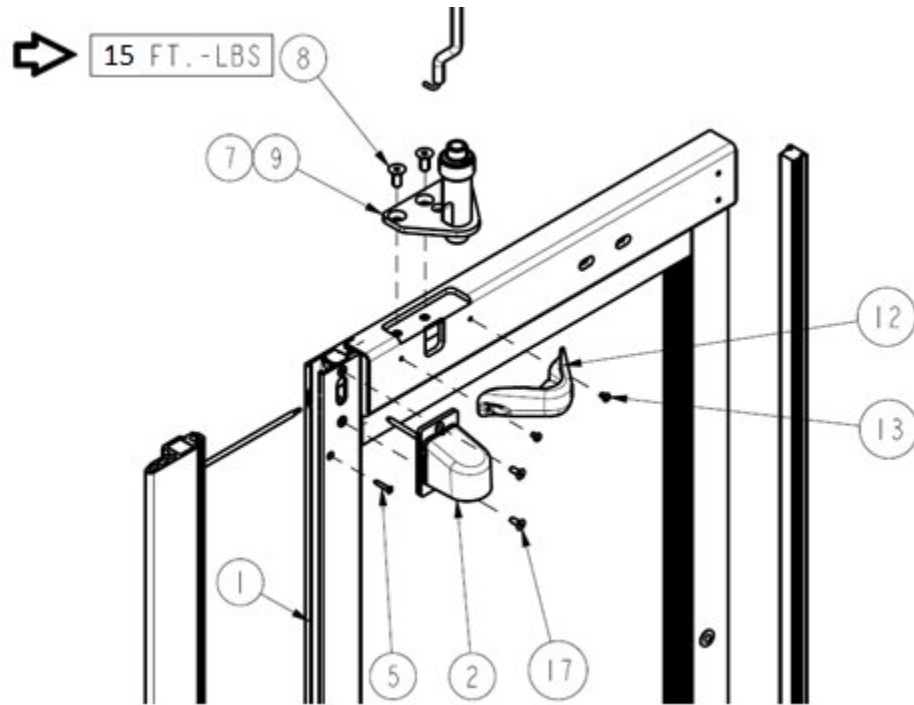

Figure 1 – Door Panel and Roller Assembly
- H.2. Refer to Figure 1 below. Remove the AFT exit door panel roller cover (Item 12) by removing 2 cover mounting screws (Item 13). Retain cover and mounting screws for reinstallation.
- H.7. Pivot the door panel into a position to allow ease of access to the two 5/16-18 x .75 flat socket head screws that secure the roller plate to the door panel (see Item 8 in Figure 1).
- H.8. Using a 3/16" Allen wrench remove the two 5/16-18 x .75 flat socket head screws that secure the roller plate to the door panel (see Item 8 in Figure 1).
- H.10. Install new roller plate 51556014 onto door panel top cross member as shown in Figure 1 using new mounting screws 67121038-37 SCR HX SKT BTN HD 5/16-18 x .75 STL ZN.